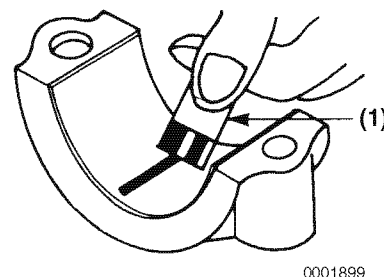

Figure 6-109
- Compare the width of the flattened PLASTIGAGE to the graduation marks on the package (**Figure 6-109, (1)**). The mark that most closely matches the width of the flattened PLASTIGAGE will indicate the bearing oil clearance.